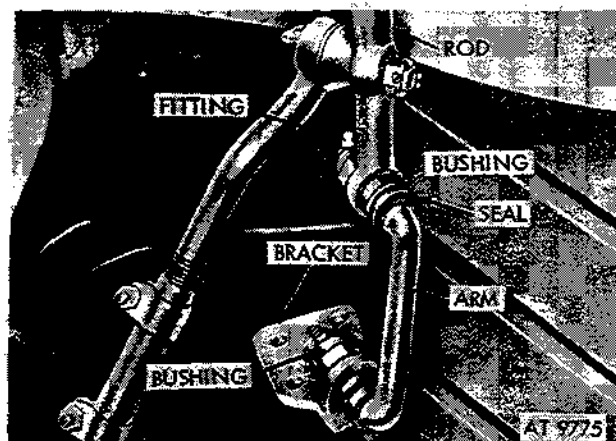

Figure 2-354. Remove idler arm bracket and idler arm (M151, M151A1, M151A1C and M718).
(2) Turn idler arm bracket and bushing clockwise (facing idler arm) to remove from idler arm (see fig. 2-354).
(3) Turn idler arm clockwise to remove from the idler arm rod assembly (see fig. 2-354). Remove and inspect seals. Remove lubrication fittings.
(4) Idler arm bushings at both ends of idler arm have R. H. outside threads. Remove and inspect bushings.